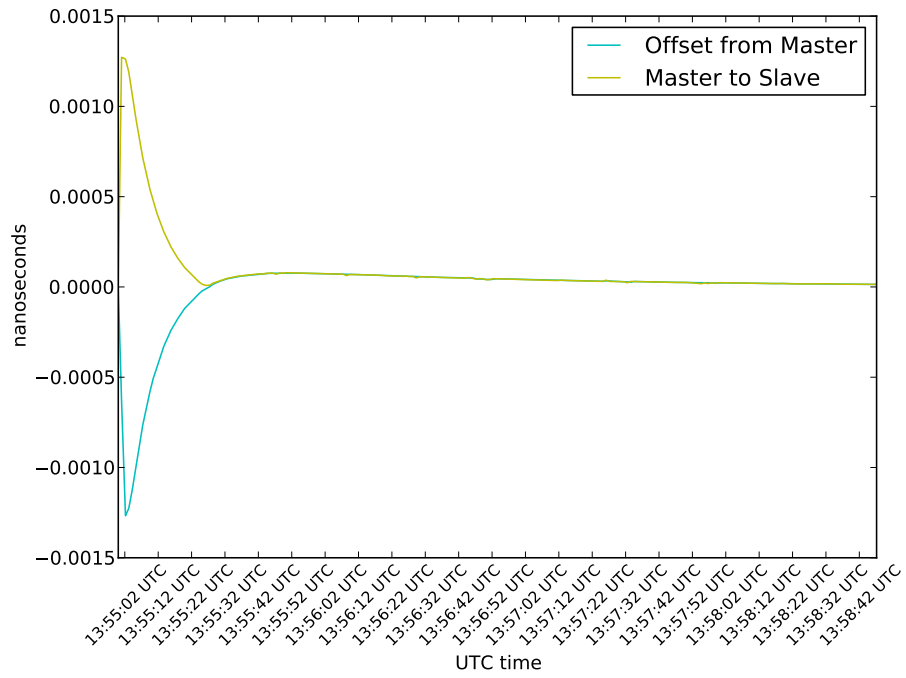
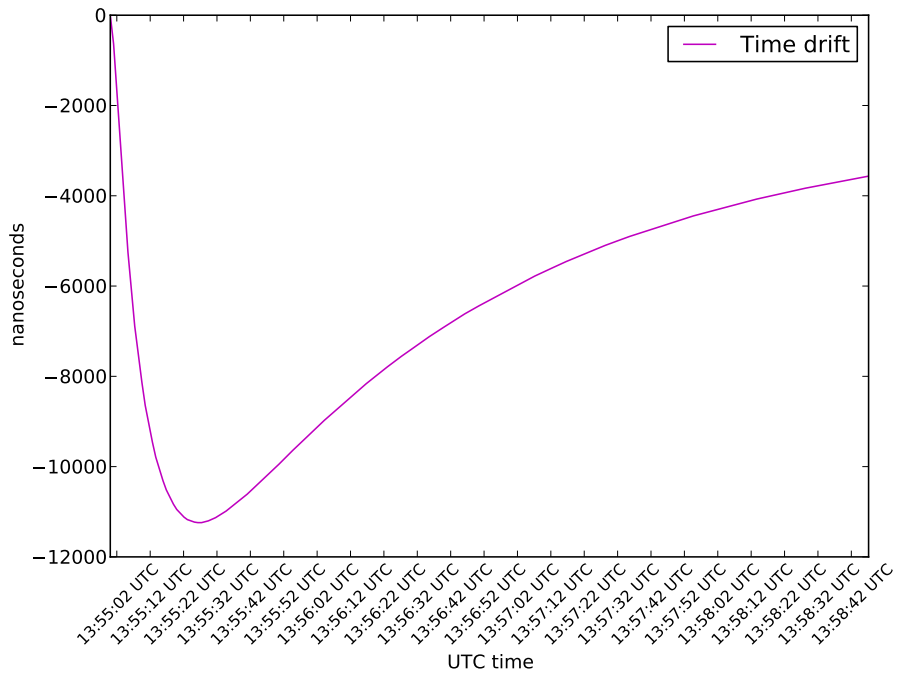

Figure 1: Data sample collected by the board: *Offset from Master* and *Master to Slave*
Figure 2: Data sample collected by the board: *Time drifting* of the Slave's clock
- The first one (*figure 1*) will contain the time evolution of:
- The second one (*figure 2*) will contain the time evolution of the *Time drift*;
Figure 1 shows the evolution of the *system time offset* with respect to the Master (in cyan) and the time required by the synchronization signal produced by the Master to reach the board (Magenta). The graphic in Figure 2, on the other hand, shows the behavior of the Slave's time drift in the same period.